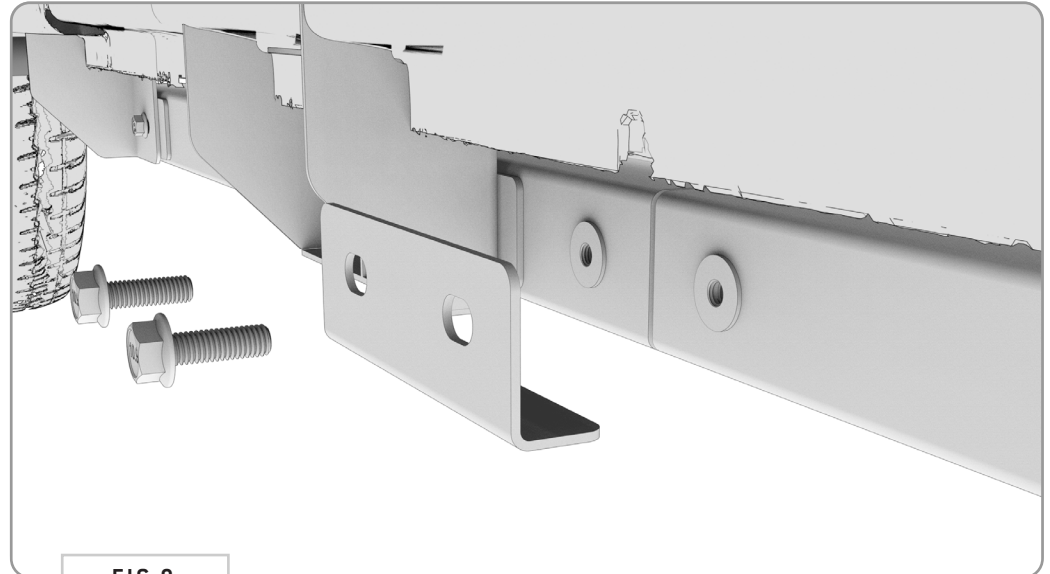
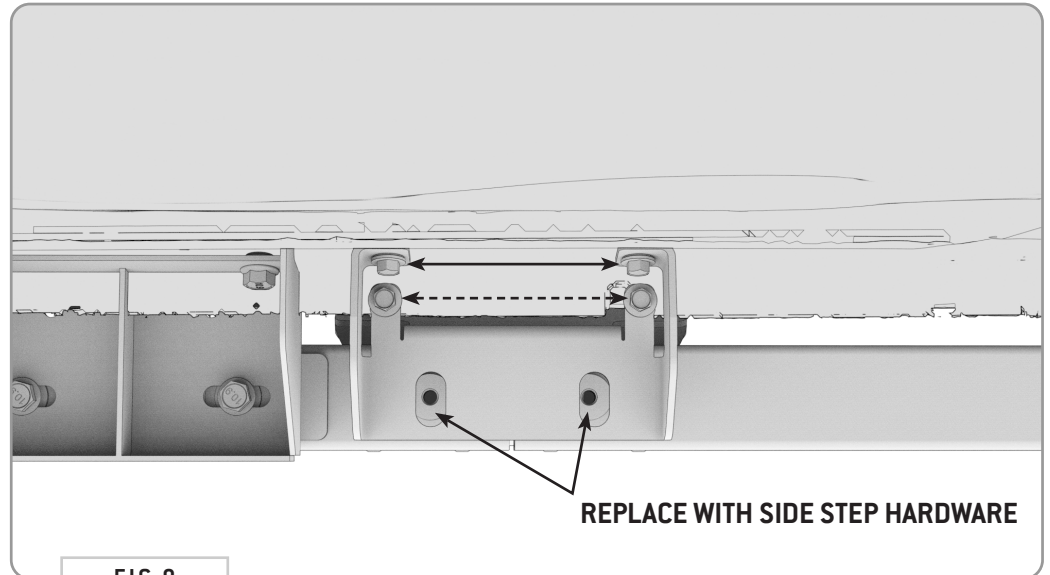

FIG 8
FIG 9
**3.1b Direct Mount to FVC Side Steps:** Loosen the 3/8-16" Bolts holding the Driver Side Step Weldment to your Hangar Brackets. Remove the Bolts holding the Joining Plate to the Weldment (FIG 8) and replace using the supplied Surf Pole Hangar Bracket and existing hardware (FIG 9).
**3.2b Secure Hangar Bracket:** Secure Hangar Bracket to Pinch Seam using (4) 1/4-20 x 1 Self-Tapping Screws in the locations shown in FIG 9.